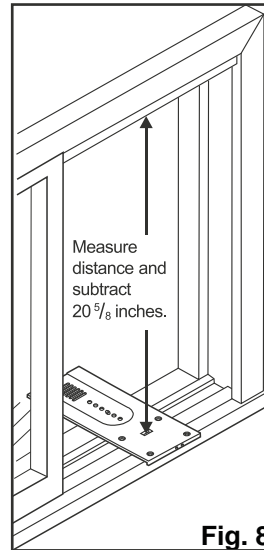

Fig. 8
9. Measure height of window opening. (Fig. 8)
10. Slide the plastic window panel into panel frame. (Fig. 8)